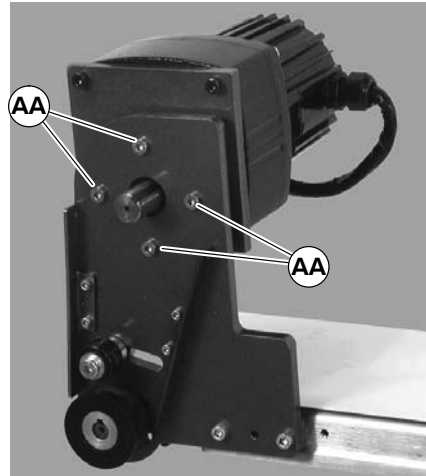

Figure 19
7. Remove four gear motor mounting screws (AA of Figure 19). Remove gearmotor/adapter plate Assembly.
10. Install gearmotor/adapter plate assembly on mounting bracket with screws (AA of Figure 19). Tighten screws to 103 in-lb (12 N-m).